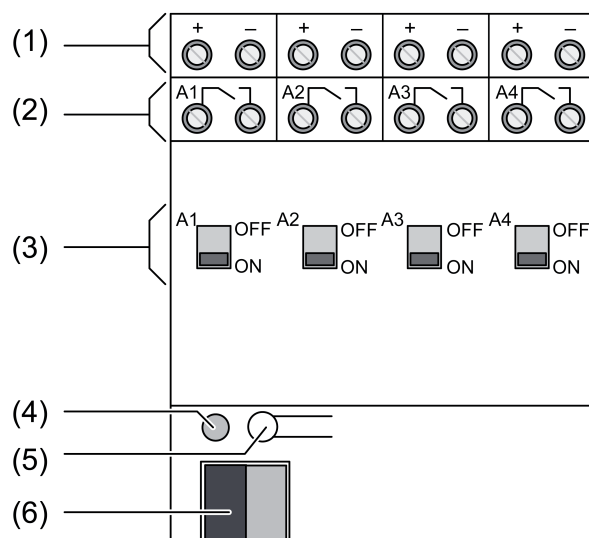

Figure 1
The status of the relay is reflected by the slide switches (3) on the front of the device.(figure 1). At the same time they can be used for manual operation of the relay outputs using a suitable tool.